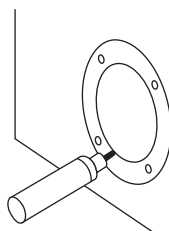

Fig.1
4. Mark the cut-off hole and the 4 bolt holes. (Fig.1)